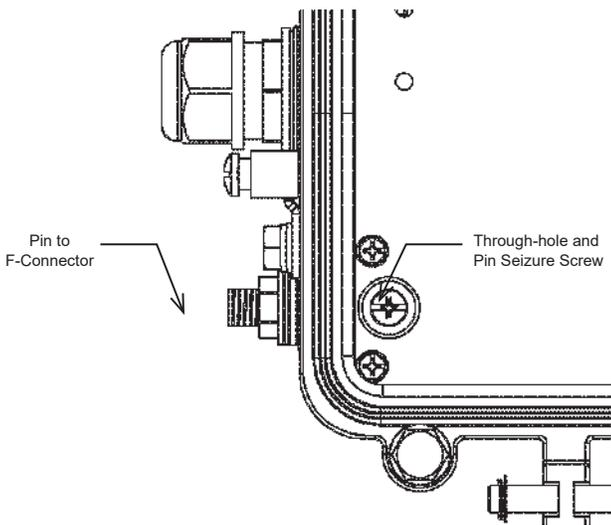

Fig. 2-15, Seizure Screw Through-hole Location
3. With a Phillips screwdriver, loosen the pin seizure screw (Fig. 2-15) to release stinger.